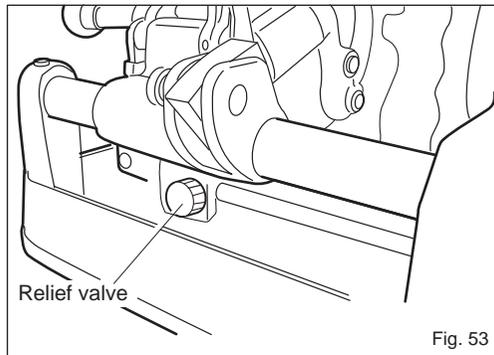

Fig. 53
- Turn the Relief valve to adjust to the most suitable amount of oil needed. (Fig. 53)